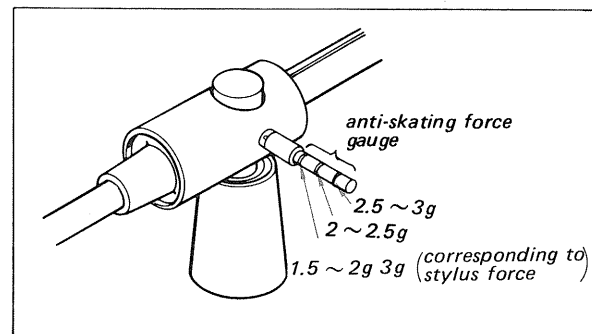

Fig. 3-12. Detail of anti-skating force gauge
5. Hook the bias weight on the slot in the anti-skating force gauge corresponding to the stylus force. The anti-skating force gauge has three slots to compensate for 1, 2 or 3 grams of stylus force as shown in Fig. 3-12.